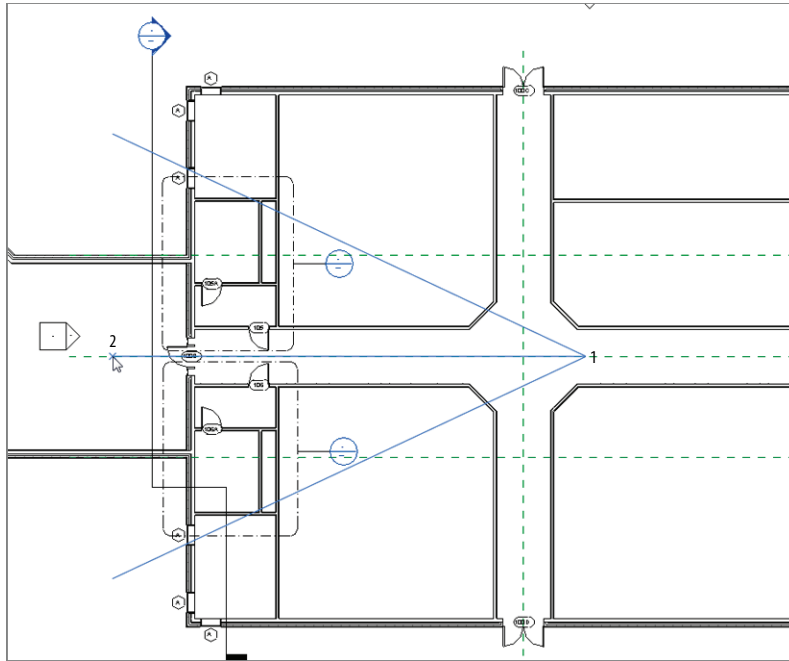

FIGURE 3.70: Placing the camera view in the main corridor
3. Pick a point in the main corridor of the east wing, and move your cursor to the left—down the hallway. You want to take a perspective view as if you were standing in the intersection of the two main corridors, as shown in Figure 3.70.